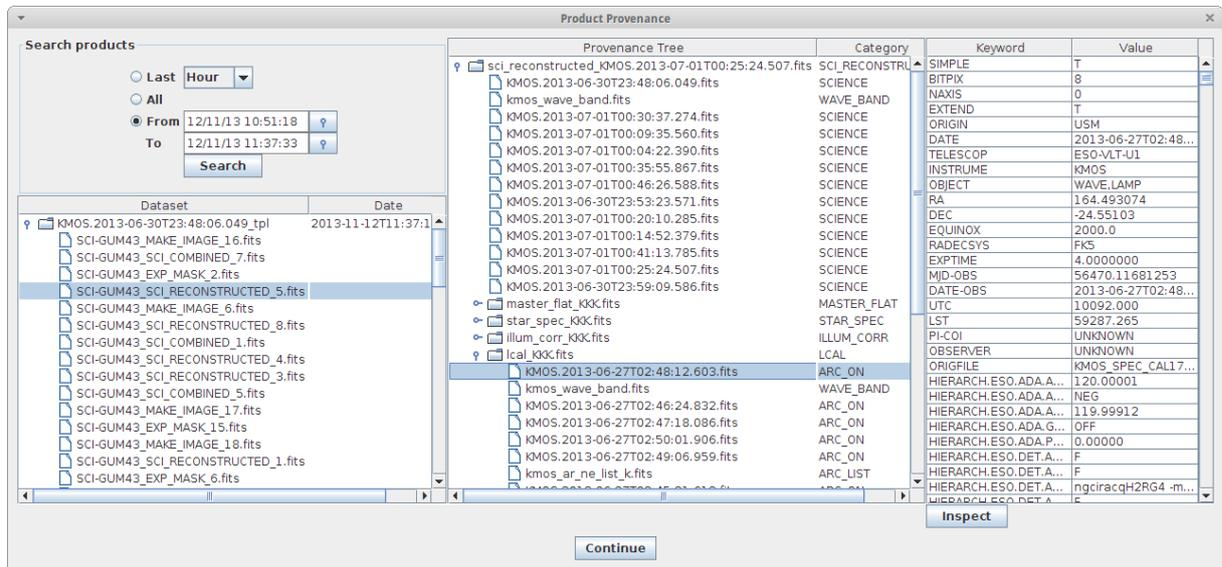

Figure 5.4: *The KMOS provenance explorer.*
9. When the reduction of the current `DataSet` finishes, a pop-up window called *Provenance Explorer* will appear showing the datasets which have been so far reduced together with the list of final products. This actor allows the user to inspect the final data products, as well as to search and inspect the input data used to create any of the products of the workflow. Figure 5.4 shows the *Provenance Explorer* window.